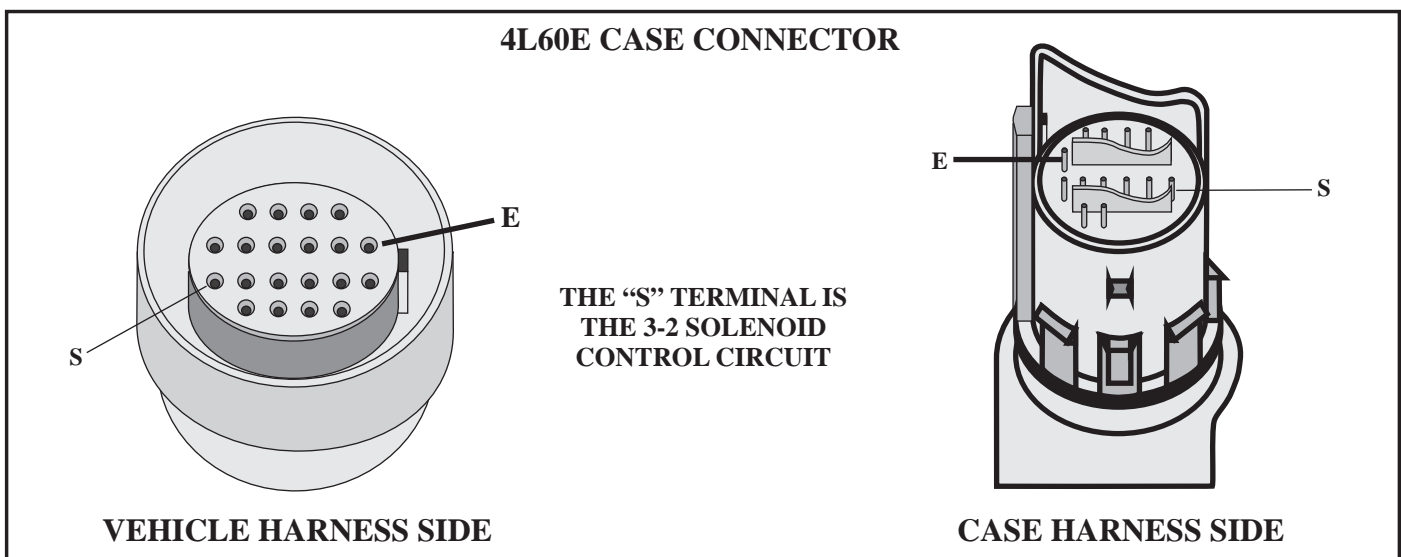

Figure 118
- Check terminal end cavities with a #59 wire gauge drill bit. Refer to Figure 118 for terminal location. Transmission wiring on “G” Vans is routed between the floor of the van and a sheet metal plate, wiring can deteriorate in this area, check for bulk head connector damage as well.